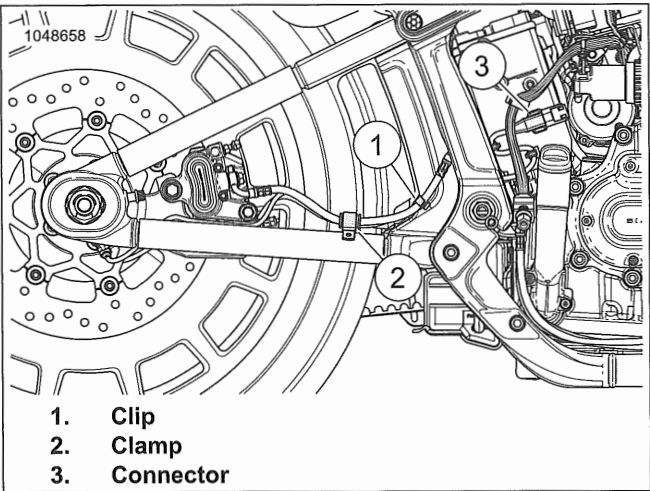

Figure 7-134. Rear Wheel Speed Sensor
- 2. See Figure 7-134. Remove WSS wire from clips (1).
- 3. Remove clamp (2).
- 4. Disconnect connector (3).
- 2. See Figure 7-134. Connect WSS sensor connector (3).
- 3. Install clamp (2).